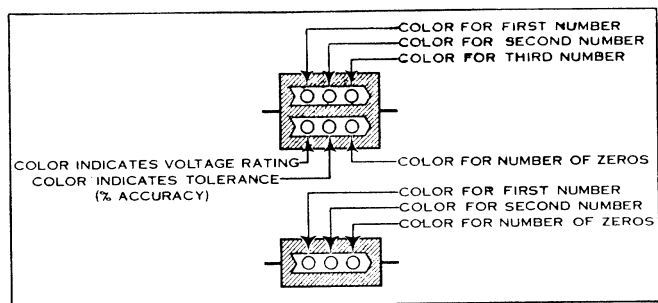

FIGURE 13. MICA CAPACITOR COLOR CODE CHART
EXAMPLE: A 56,300 MMFD. (0.0563 MFD.) capacitor of 10% tolerance and a 500 volt rating is indicated by a green dot (5), a blue dot (6), and an orange (3), on the top row; a red dot (2 zeros) (00), a silver dot (10% tolerance) and a green dot (or no color) (500 volts) arranged in the order shown in Figure 13. All capacitance values are given in micro-microfarads (MMFD). To convert to microfarads (MFD) move the decimal point 6 places to the left. Small capacitors are often marked with 3 dots as shown in Figure 13. For example, a 250 MMFD. unit (0.000250 MFD.) would be marked red (2), green (5), and brown (1 zero) (0).